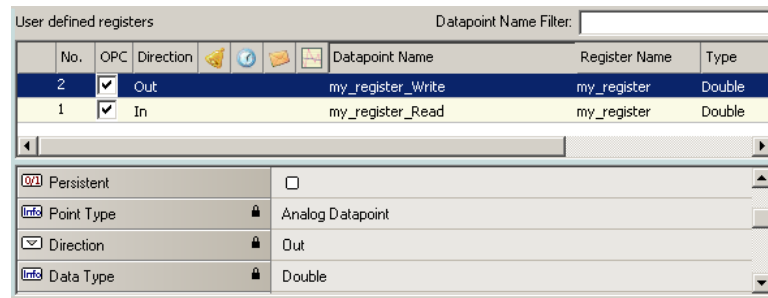

Figure 88: Manually created user register.
6. Two data points now appear for the register, one for writing the register and one for reading the register as shown in Figure 88.